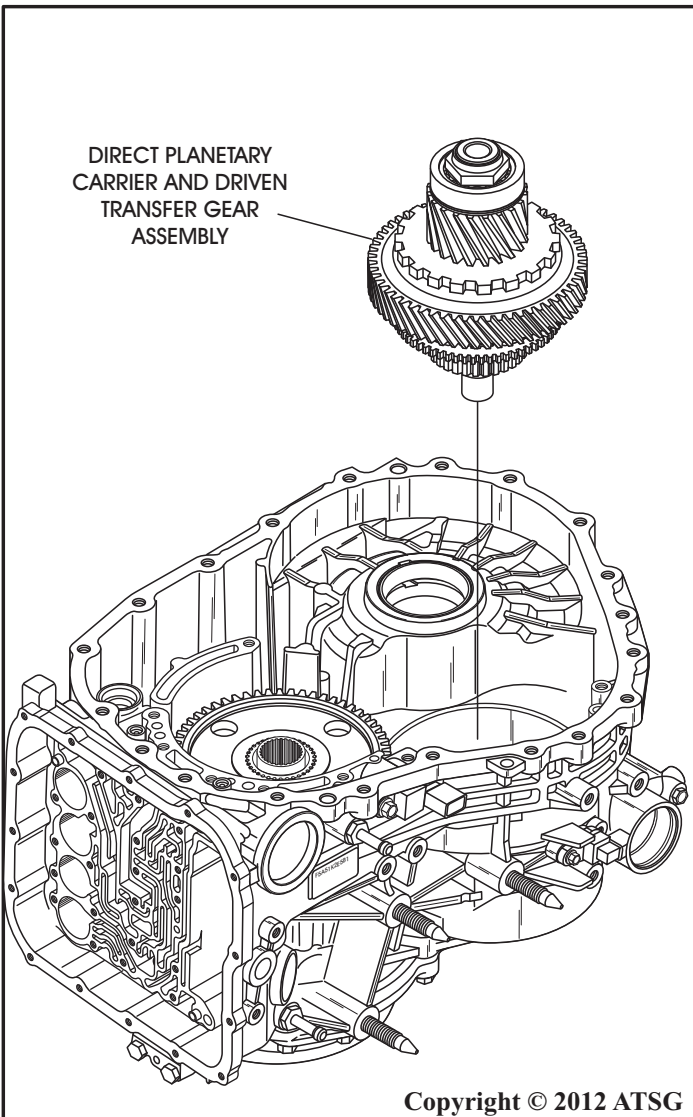

Figure 74
43. Now you can remove the direct planetary carrier and driven transfer gear assembly, as shown in Figure 74, and set aside for component rebuild section.